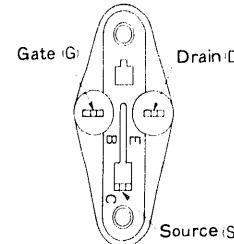

Fig. 5
- (3) Since the socket for transistor use is used for the socket of the POWER MOS FET, polarity is indicated as B, C, E. Match it to the indications shown in Fig. 5 when replacing the POWER MOS FET and when checking.